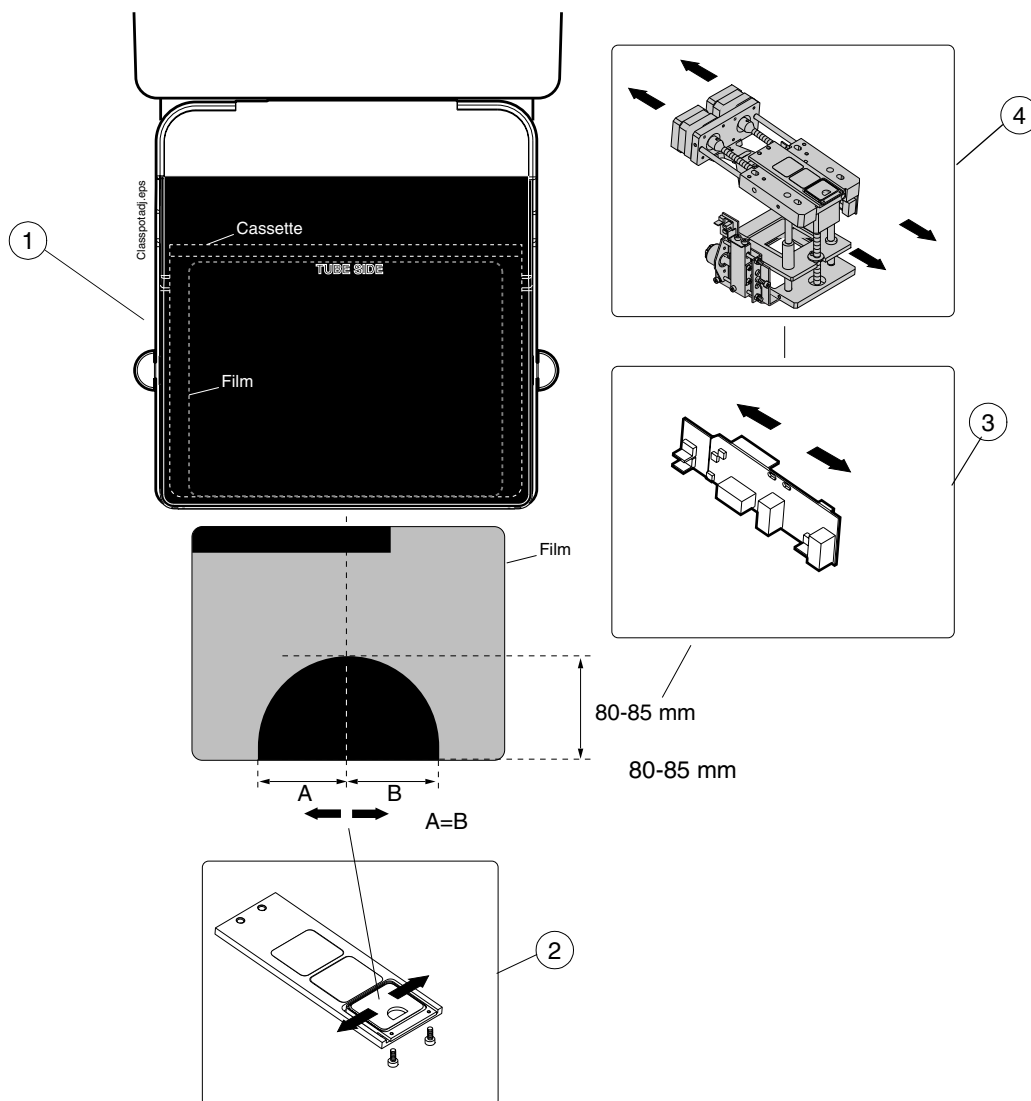

Figure F.10
- Place a loaded small cassette on a cassette table (Fig. F.10, 1).
- Check that the exposed area corresponds to the area in Fig. F.10.
- Loosen the spot collimator assembly screws and perform the side direction adjustment (Fig. F.10, 2).
- The back/front adjustment is performed by moving the COLLIMATOR PCB (Fig. F.10, 3), or the collimator assembly (Fig. F.10, 4). After adjustment make sure that the collimator worm-screw nut does not hit the collimator lower frame or stick to the beginning of the worm-screw. If needed, adjust the collimator limit sensors, see "Collimator mechanism limit sensors" on page F-44.